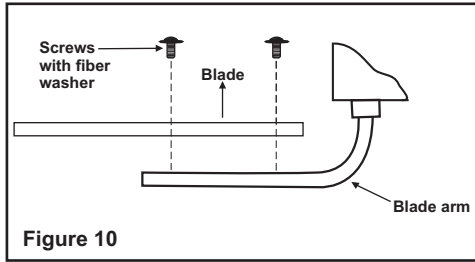

Figure 10
Step 1 Attach the blades to the blade arms using three screws with fiber washers as shown in Figure 10. Start a screw into the arm, do not tighten. Repeat for the 2 remaining screws and washers.